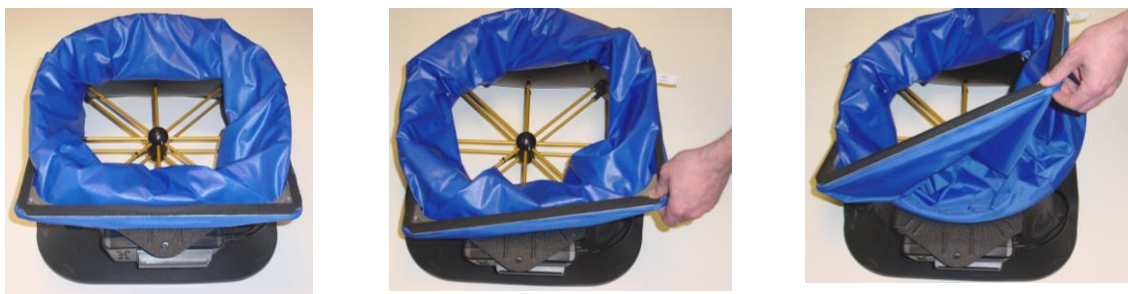

Figure 2
2. For storage purposes, the 16 in × 16 in (406 mm × 406 mm) frame sits around the top lip of the base. To assemble, lift one of the front hood corners on an angle to remove the frame from the stowed position. See Figure 2.